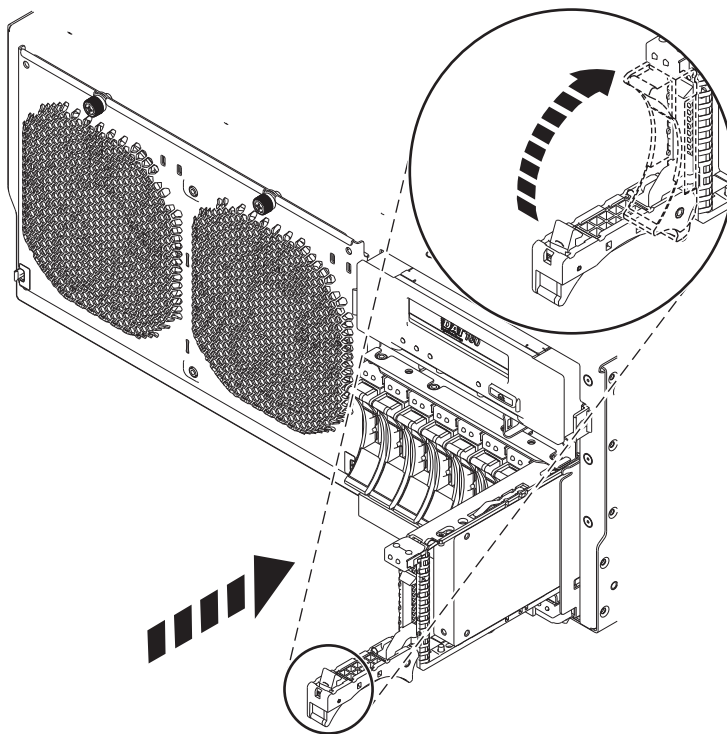

Figure 1. Installing the disk drive into the 8202-E4B, 8202-E4C, 8205-E6B, or 8205-E6C
7. Unlock the disk drive handle (A) by squeezing it and pulling it out toward you. If the handle is not all the way out, the disk drive does not slide into the system or expansion unit.
9. Slide the disk drive all the way into the system or expansion unit, and push the disk drive handle (A) in until it locks, as shown in Figure 1. The service indicator on the disk drive turns on.